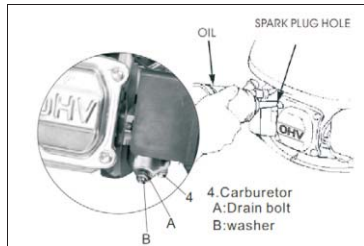

Fig. 13
3. After all the fuel has drained into the container; reinstall the drain bolt and washer. Tighten the drain bolt securely. (See Fig. 13)